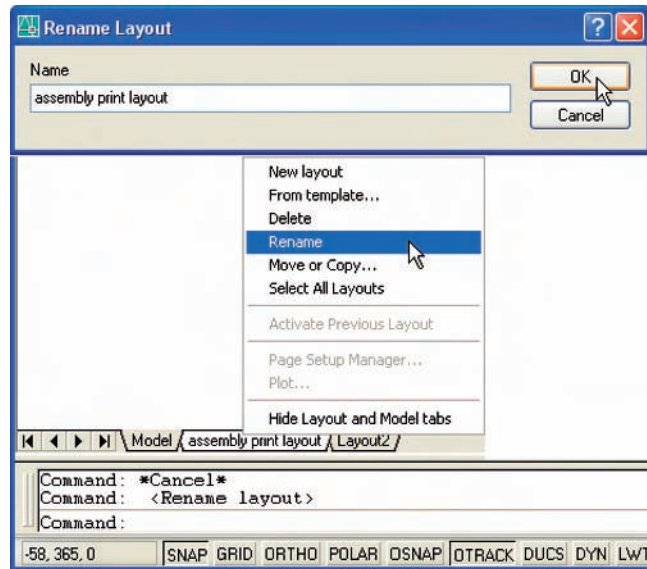

Fig. 20.6 First example **Printing/Plotting** – renaming the **Layout1** tab
4. *Right-click* on the **Layout1** tab and *click* **Rename** in the menu which appears. Then in the **Rename Layout** dialog which comes to screen, *enter* a new name in the **Name** field. *Click* the **OK** button and the **Layout1** tab is renamed (Fig. 20.6).